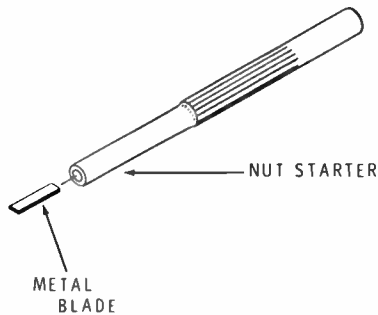

Figure 1
- (✓) Prepare an alignment tool in the following manner: Insert the 1/8" x 3/4" alignment tool blade into the small end of the nut starter as shown in Figure 1. Leave 1/4" exposed.